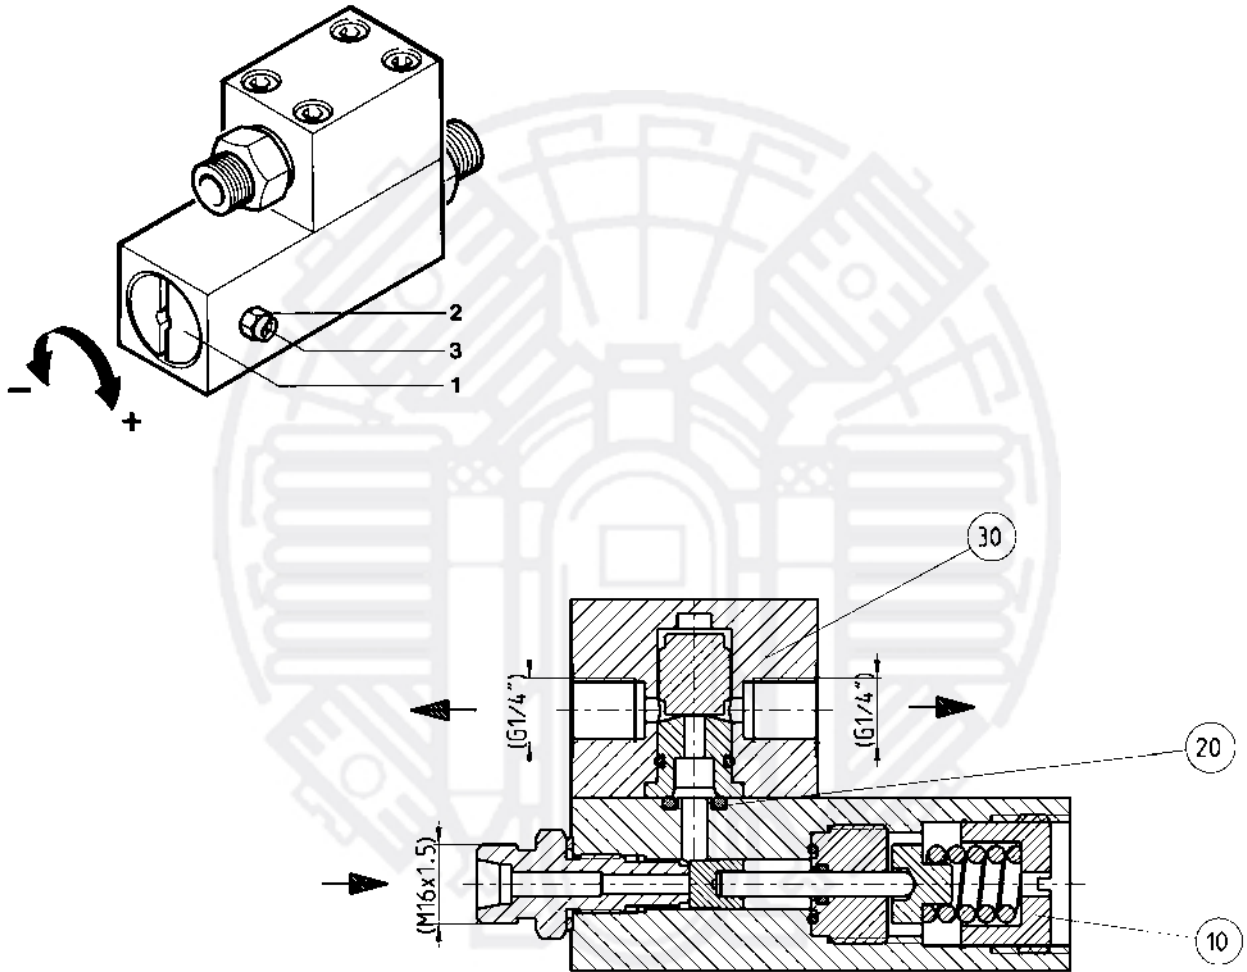

Fig. 68 Pressure maintaining valve
The opening pressure is adjustable with screw (1, Fig. 68). First loosen counter-nut (2) and turn out stud (3) several turns.